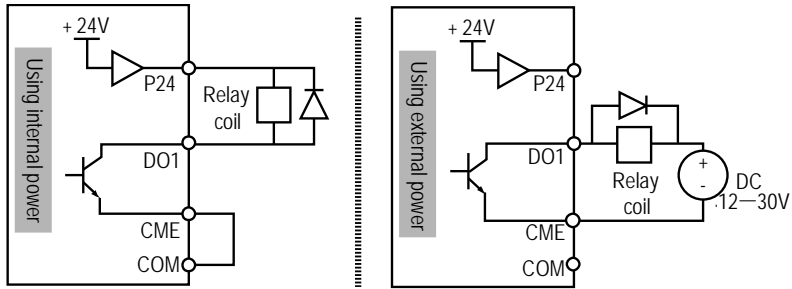

Figure 4-21 DO1 terminal connection
1. The multi-function output terminal DO1 can use the inverter's internal 24V power supply or the external power supply. The connections are as shown in Figure 4-21.